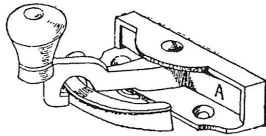

Fig. 183. Sash-fast. P. & F. Corbin.
I. *Old Style of plain lever-fast.* This consists of a plain, pivoted bar, attached to the upper sash, with a hook on the end, which works over a catch or raised plate on the lower sash. A knob, often of porcelain, is fastened to the end of the bar. Figure 183 illustrates this type. In the oldest makes of this kind, the lever was simply pivoted on the upper sash, and a knife-blade, slipped between the meeting-rails, could push the lever to one side and unlock the window without the slightest difficulty. In the sash-fast shown by the figure, the lever is made with a broad, flat end, which presses against a strong spring, *A*, at the back. The spring serves to stiffen the action of the lever, which is further protected against intrusion, in some cases, by dovetailing the bottom plates, so that the lever cannot be got at through the joint between the meeting-rails. Varieties of this same form are made with the lever swinging only half around in one direction, the gain thereby being that the back spring can be made longer and stiffer, without increasing the size of the sash-fast.